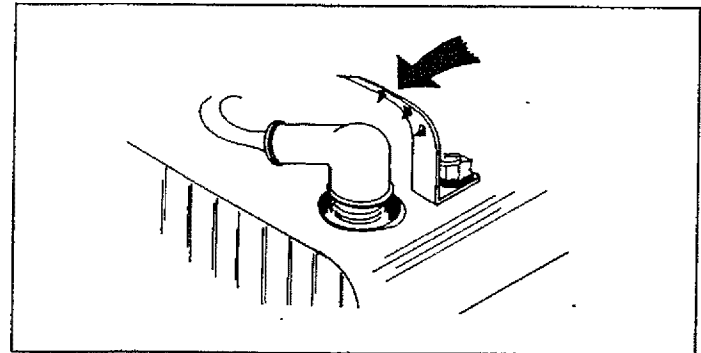

FIG. 6
- Check that the spark plug wire is connected to engine spark plug. Also check that the Stop Switch next to spark plug (if so equipped) is not contacting the spark plug (Fig 6).